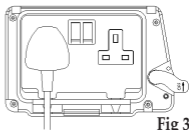

Fig 3
- Once the box lid is closed, ensure that the cable passes through the centre of the cable seal (see figure 3). The isolating lever may be turned to the on position.
- The lid should then be closed to maintain the IP rating, taking care to ensure that the cables are aligned with the centre of the cable seals (see figure 3).